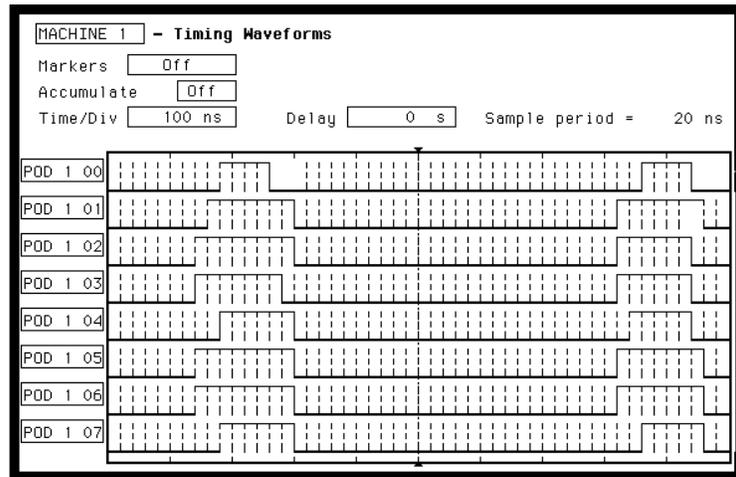

Figure 3-34. Glitch Test Timing Waveforms
- Press RUN. The timing analyzer acquires data and shows glitches for channels under test as in figure 3-34. SELECT **Delay** field and rotate knob to assure consistent glitch detection.